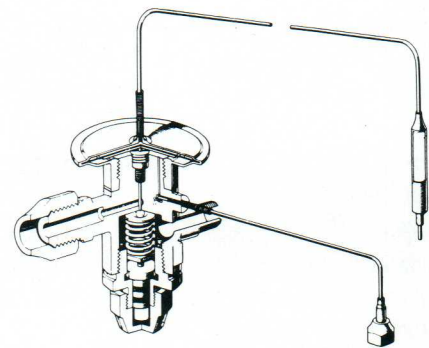

Figure 215-5
**Expansion valve** (Figure 215-5): This small valve controls the flow of freon into the evaporator. It is controlled by a temperature sensor at the evaporator outlet. If the outlet temperature is too high, it means not enough freon is flowing into the evaporator and poor passenger cooling will result.